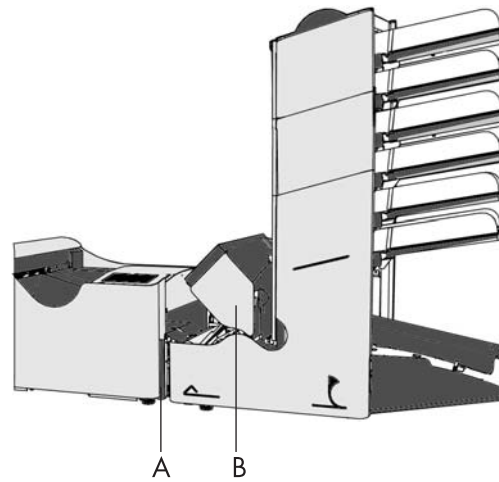

Fig. 56
- push the lower end of the locking handle A to open the PowerFold™ cover B (fig. 56).